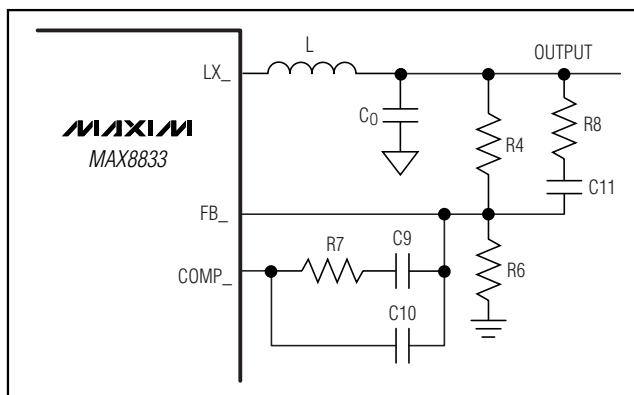

Figure 4. Type III Compensation Network
The output voltages for regulator 1 (with REFIN connected to SS1) and regulator 2 are set with a resistor voltage-divider connected from the output to FB_ to GND as shown in Figure 4. Select a value for the resistor connected from output to FB_ (R4 in Figure 4) between 2kΩ and 10kΩ. Use the following equations to find the value for the resistor connected from FB_ to GND (R6 in Figure 4):
The high-switching-frequency range of the MAX8833 allows the use of ceramic output capacitors. Since the ESR of ceramic capacitors is typically very low, the frequency of the associated transfer-function zero is higher than the unity-gain crossover frequency, f_C , and the zero cannot be used to compensate for the double pole created by the output filtering inductor and capacitor. The double pole produces a gain drop of 40dB and a phase shift of 180° per decade. The error amplifier must compensate for this gain drop and phase shift to achieve a stable high-bandwidth closed-loop system. Therefore, use type III compensation as shown in Figure 4. Type III compensation possesses three poles and two zeros with the first pole, f_{P1_EA} , located at 0Hz (DC). Locations of other poles and zeros of type III compensation are given by: